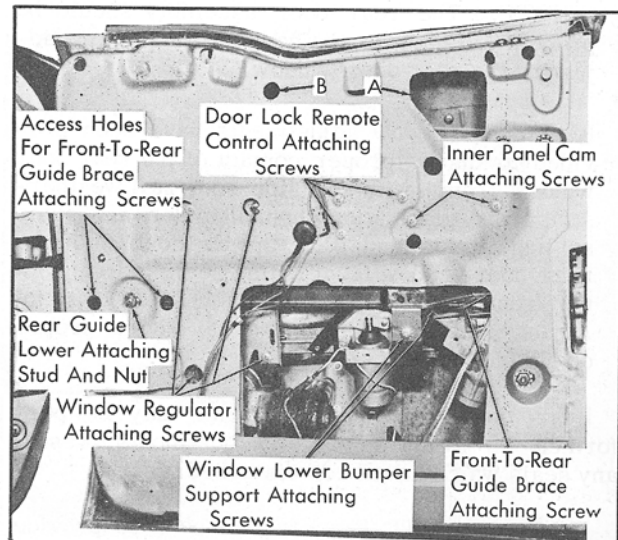

Fig. 17-39 . Rear Door Window Regulator Attachment
5. Remove window lower bumper support attaching screws, Fig. 17-39, and remove support from door.
6. Disconnect door lock remote control free-wheeling solenoid feed wire at connector. Disengage spring clip and detach remote control connecting rod from remote control. Remove remote control attaching screws, Fig. 17-39; disengage remote control handle shaft from hole in door inner panel and remove assembly through large access hole.
7. Remove window rear guide lower attaching stud and nut. Remove front-to-rear guide brace attaching screws and remove front-to-rear guide brace from door, Fig. 17-39.
8. Remove inner panel cam attaching screws, Fig. 17-39, disconnect cam from window regulator arm and remove cam from door.
9. Remove window regulator attaching screws, Fig. 17-39. Position regulator assembly so that motor end of regulator can be started out of access hole first; then remove window regulator assembly from door.